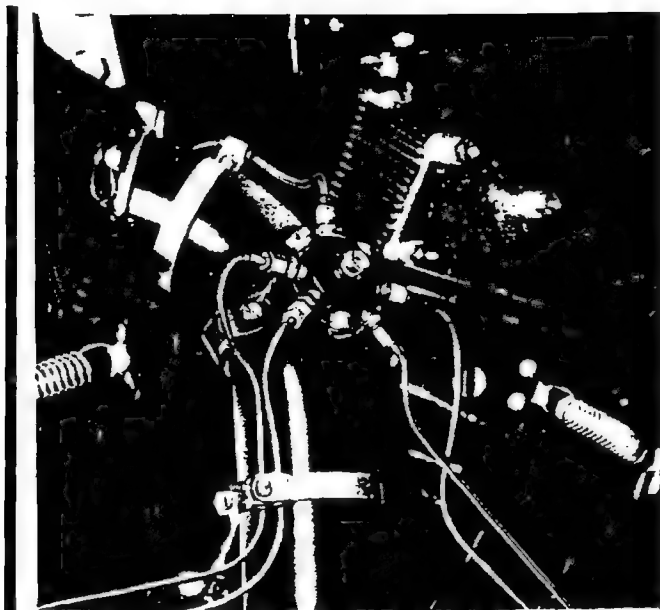

Figure 31—Location of Priming Distributor
b. INSTALLATION OF FIVE-POINT PRIMING SYSTEM.—If removed, attach the distributor to the clamp and place the clamp on the No. 1 cylinder intake pipe facing the rear, and at a location 8 inches from the center of the distributor to intake pipe packing nut. Do not tighten the clamp at this time. Place each priming tube in its approximate location and by placing No. 3 priming tube in one of the upper locations, slip the clamps over the intake pipe, install the nuts and bolts, but do not tighten. Screw on the union nuts at the intake ports and the distributor. Tighten each union nut at the intake port and distributor location, have the lower priming tube clamp set so as to have the tightening screw on the forward side. (See figure 31.) Tighten all clamp nuts.